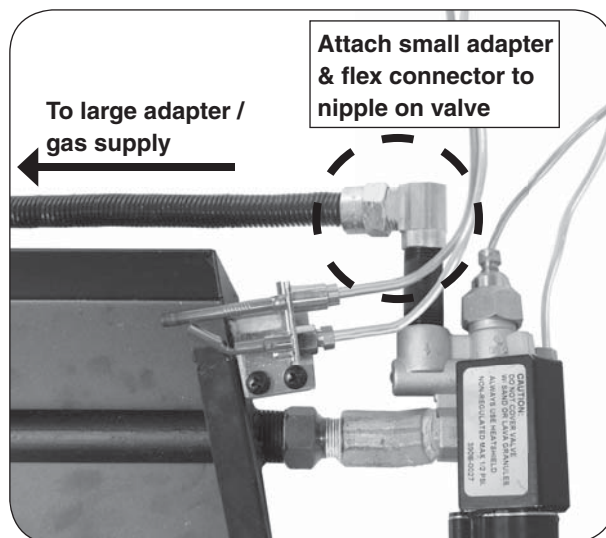

Fig. 8-1 Install flex connector to valve
3. Attach the small adapter (included with burner flex connector kit) to the gas nipple on the control valve using a pipe compound resistant to all gasses. Tighten securely. Then attach one end of the connector to the small adapter. Tighten securely. See Fig. 8-1.